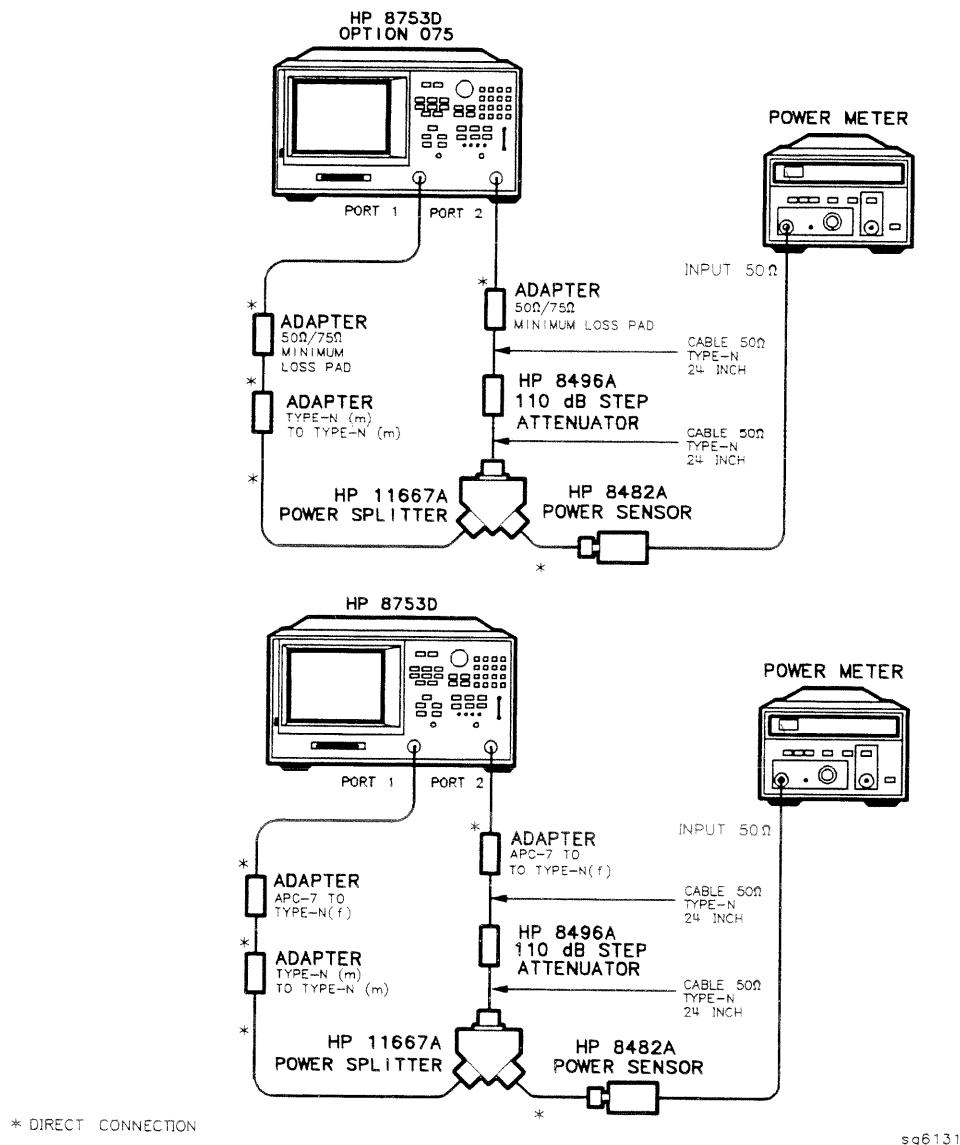

Figure 2-45. Test Port 1 Magnitude Dynamic Accuracy Test Setup
23. Connect the equipment as shown in Figure 2-45.